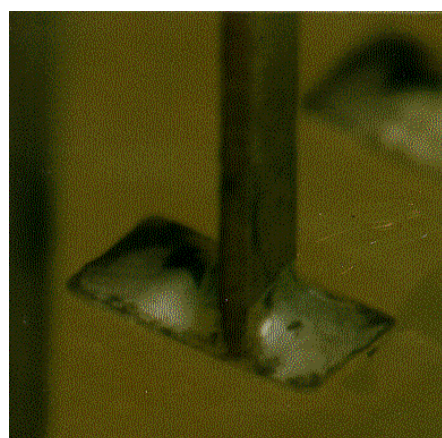

Figure 21
- D. For the butt lead, it is acceptable to have two edges of the lead a non-solderable surface. Solder fillets 0.51 mm [.020 inch] high are required on both broad surfaces, Figure 21.